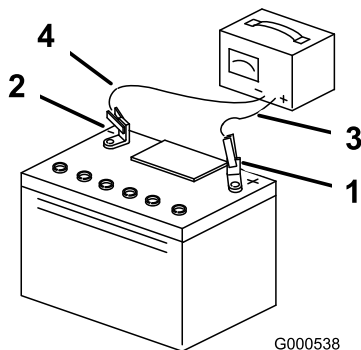

Figure 36
- When the battery is fully charged, unplug the charger from the electrical outlet, then disconnect the charger leads from the battery posts (Figure 36).